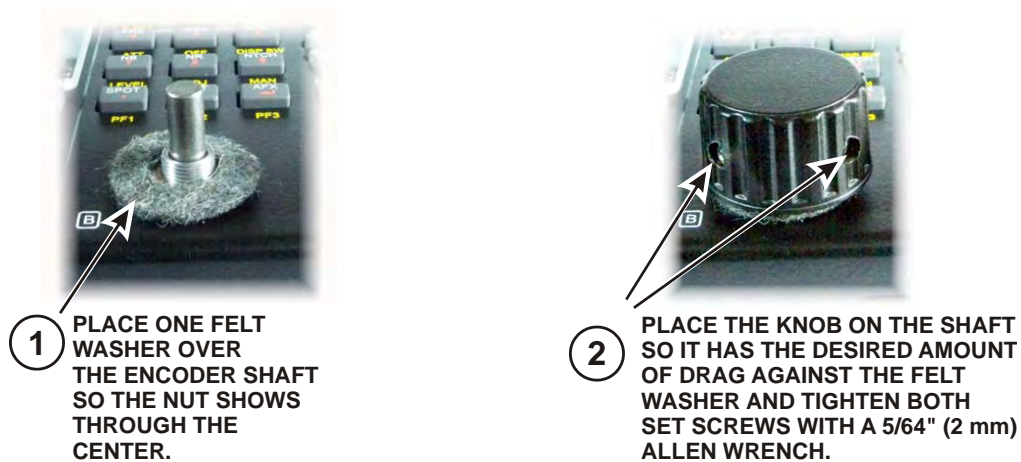

Figure 46. Mounting the VFO B Knob.
□ Mount the last knob on the VFO B encoder shaft to the right (under the pushbutton switches) as shown in Figure 46. Before tightening both set screws, adjust the position of the knob against the felt washer to produce the desired amount of drag for smooth movement without the knob turning too freely.